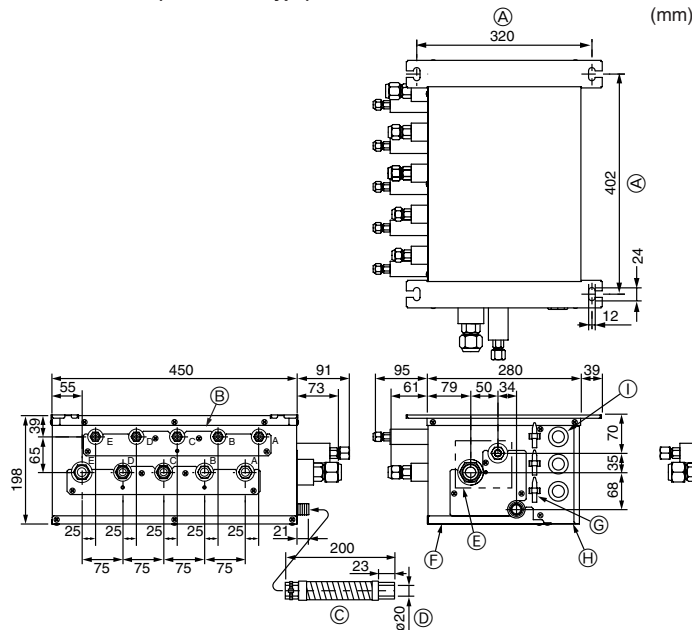

Fig. 4-2
■ PAC-AK50BC (Fig. 4-2)
- (1) Install the suspension bolts (procure locally) at the specified pitch (Fig. 4-2, 4-3).